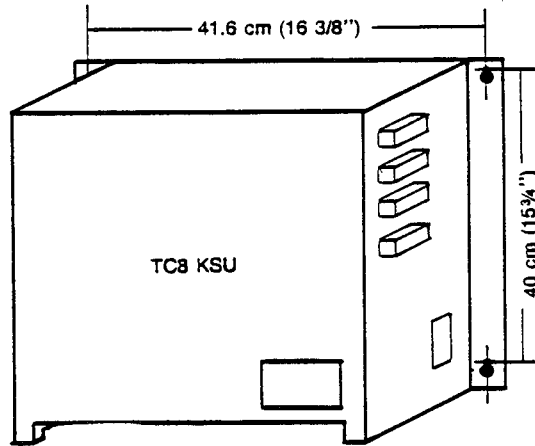

Figure 5-2 KSU MOUNTING CENTERS
- *Mark four points on the backboard that correspond to the dimensions between the mounting hole centers (Figure 5-2).